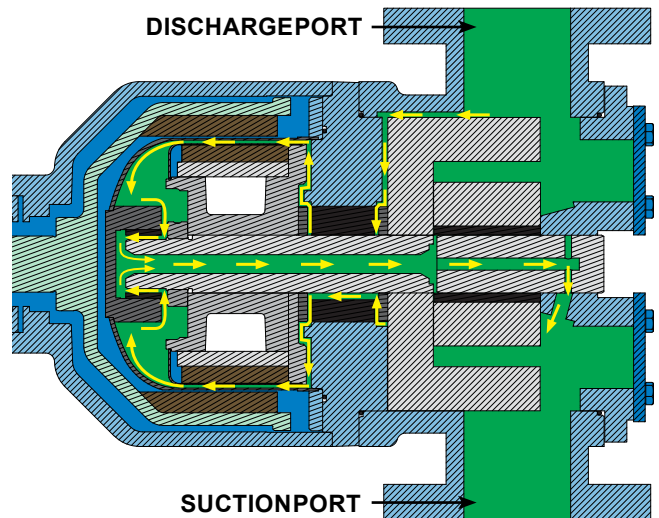

**FIGURE 13
Do not place fingers onto the front of pump mounting flange. Align the canister into bore of the bracket and gently slide it in. When the magnets start to engage, the unit will finish engagement on its own very rapidly unless the 5/16" x 4" capscrew is properly used. Make sure fingers are not on the front of the pump. See Sequence in Figure 13.
15. Insert two fully threaded 5/16" X 4" socket head capscrews into the bracket until they are fully extended in front of the bracket to control assembling the pump, see **Figure 13** on page 9. To keep the pump and bracket assemblies properly aligned and for additional safety, it is recommended to use 2 lengths of all-thread rod (6-8") threaded into diagonal capscrew locations in the bracket and slide through the corresponding holes in the adaptor plate.